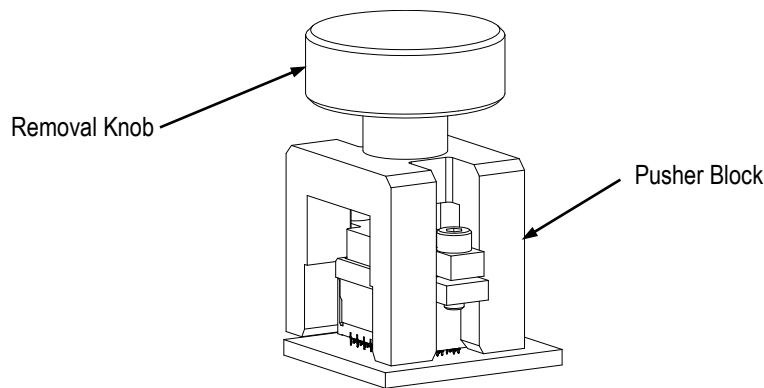

Figure 5
9. Place the pusher block over the swage subassembly and place the removal knob in the pusher block as shown in Figure 5.
13. Loosen the swage screws to remove the wedge block from the swage block. The swage screws can be stored in the swage screw holding taps on the pusher block. See Figure 5.